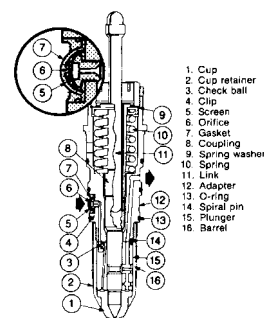

Figure 16H-1. Cylindrical PT (Type D) Top Stop Injector Cross Section
The PT(Type D) injector is a refinement of the PT (Type B and C) cylindrical injectors used in Cummins Engines with internal fuel drillings. The PT (Type D) top stop injector is shown in Figure 16H-1.
By part design changes, the PT (Type D) provides more parts that can be interchanged. The areas which are subject to wear are localized in smaller parts for easier servicing. Previous types of injectors have a body with the moving part of plunger running the full length. The PT (Type D) has a short barrel and plunger to provide the same function. The shorter barrel plunger bore makes possible the use of materials with greater wear resistance and results in a smaller replacement assembly. The barrel/plunger assembly is made of a coupling (8), Figure 16H-1, plunger (15) and barrel (16). The coupling and plunger are a swaged assembly.
ADAPTER. In Figure 16H-1, the adapter (12) houses the plunger return spring (10), adjustable orifice (6), orifice gasket (7), fuel screen (5) and screen retainer (4). The adapter has O-ring seals (1 3) on the outside, which seal against the head to form the fuel inlet and drain passages. Fuel enters through the orifice (6) and flows to the barrel (16), past the check ball (3) to the cup-to-barrel passage, then up to the metering orifice where it is metered into the cup (1). In the direct fuel feed barrels, the fuel goes directly from the check ball to the metering orifice. Fuel not used circulates past the metering orifice, around the plunger and out the drain passage while the plunger is seated in the cup. The cup, adapter and barrel are held in the assembled position by the cup retainer (2).